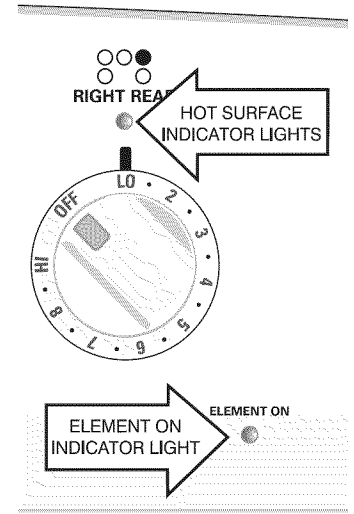

Fig. 1
2. Push in and turn the surface control knob in either direction to the desired setting (See Fig. 1). Start most cooking operations on a higher setting and then turn to a lower setting to finish cooking. The surface control knobs do not have to be set exactly on a particular mark. Use the marks as a guide and adjust the control knob as needed. Each surface element provides a constant amount of heat at each setting. A glowing red surface heating area extending beyond the bottom edge of the cookware indicates the cookware is **too small** for the surface heating area.